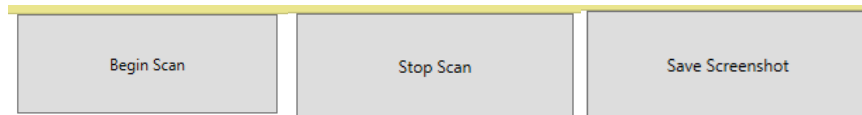

Fig. 10- 'Begin Scan' 'Stop Scan' and 'Save" Buttons
⑥ **Begin Scan, Stop Scan and Save:** To commence a live scan, select the 'Begin Scan' button. Upon selection an A-Scan trace will appear on the main window. To stop scan, click on the correspondent icon as well as for save a screenshot (Fig. 10)